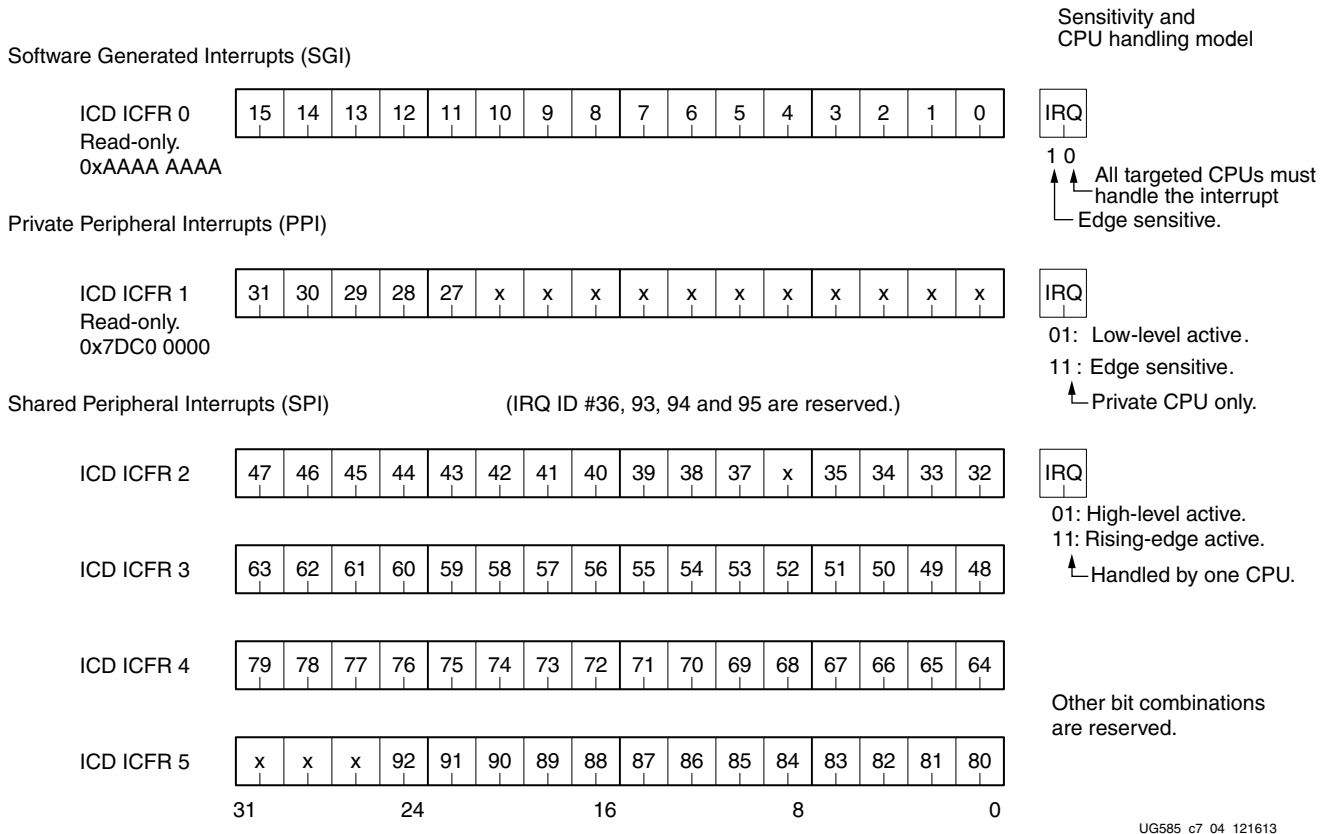
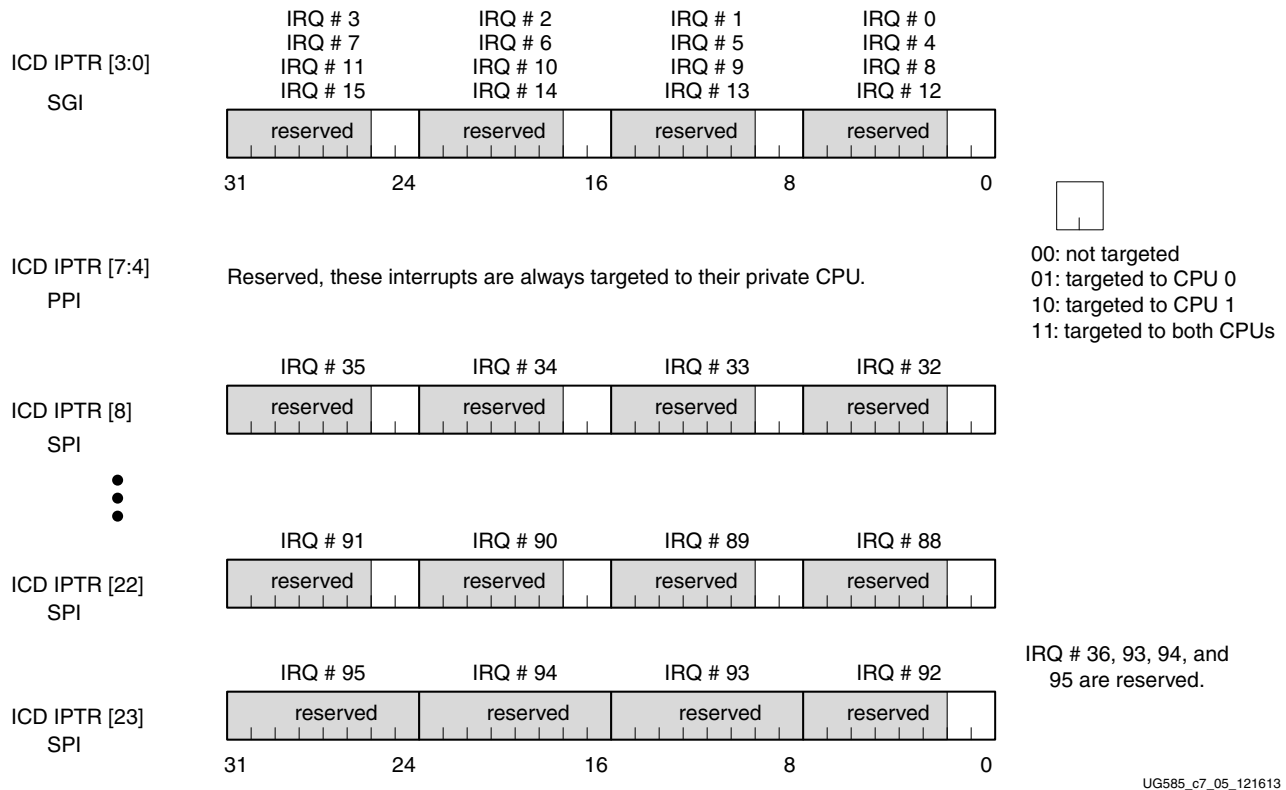

Figure 7-4: Interrupts ICDICFR Register for Sensitivity and Handling
Figure 7-5: Interrupts ICDIPTR Register for Targeting CPU
- mpcore.ICDICFR[5:0] registers: sensitivity and handling. See Figure 7-4.
- mpcore.ICDIPTR[23:0] registers: targeting CPU(s). See Figure 7-5.
The SGI interrupts are always edge sensitive and are generated when software writes the interrupt number to ICDSGIR register. All of the targeted CPUs defined in the ICDIPTR [23:8] must handle the interrupt in order to clear it. See Figure 7-4 and Figure 7-5.